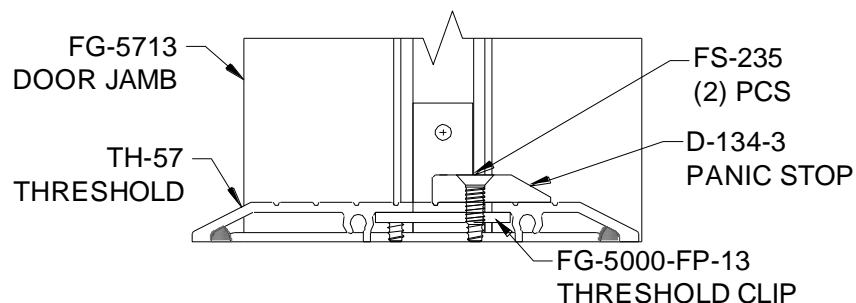

Figure 19: Attaching Panic Stop
- 8.8 When required, attach the **D-134-3** Panic Stop with (2) **FS-235** Fasteners. See Figure 19.